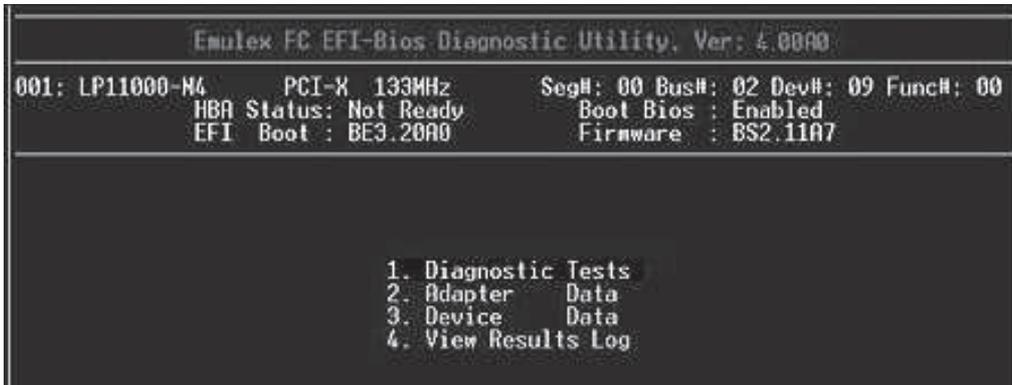
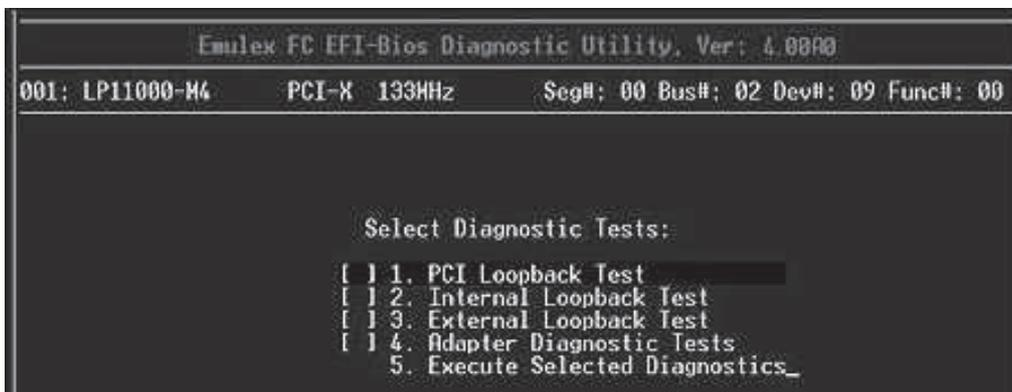

Figure 94: Diagnostic Main menu
Figure 95: Diagnostic Tests menu
- Access the Diagnostic Main menu (Figure 94) and select **<1>**. Diagnostic Tests. Press **<Enter>**. The Diagnostic Tests menu is displayed:
- On the Diagnostic Main menu (Figure 94), select **<1>**. Diagnostic Tests. Press **<Enter>**. The Diagnostic Tests menu is displayed (Figure 95).
1. Access the Diagnostic Main menu (Figure 94) and select <1>. Diagnostic Tests. Press <Enter>. The Diagnostic Tests menu is displayed (Figure 95).
The Adapter Diagnostic Tests include adapter restart, display of some configuration parameters, results of linkup and target login. These actions cannot be selected individually. If any one of these tests fail, Failed is displayed on the Diagnostic Test menu (Figure 95).
1. Access the Diagnostic Main menu (Figure 94) and select <2>. Adapter Data. Press <Enter>. The **Adapter Data** menu is displayed: